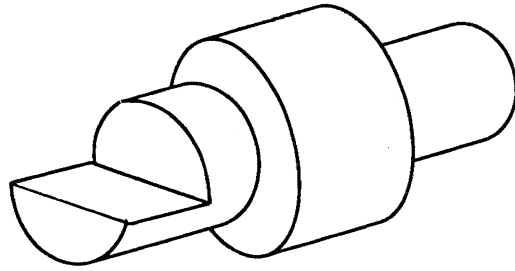

Figure 2
2. Figure 2 shows a product produced by the die casting process. The product needs to undergo a heat treatment process before use.